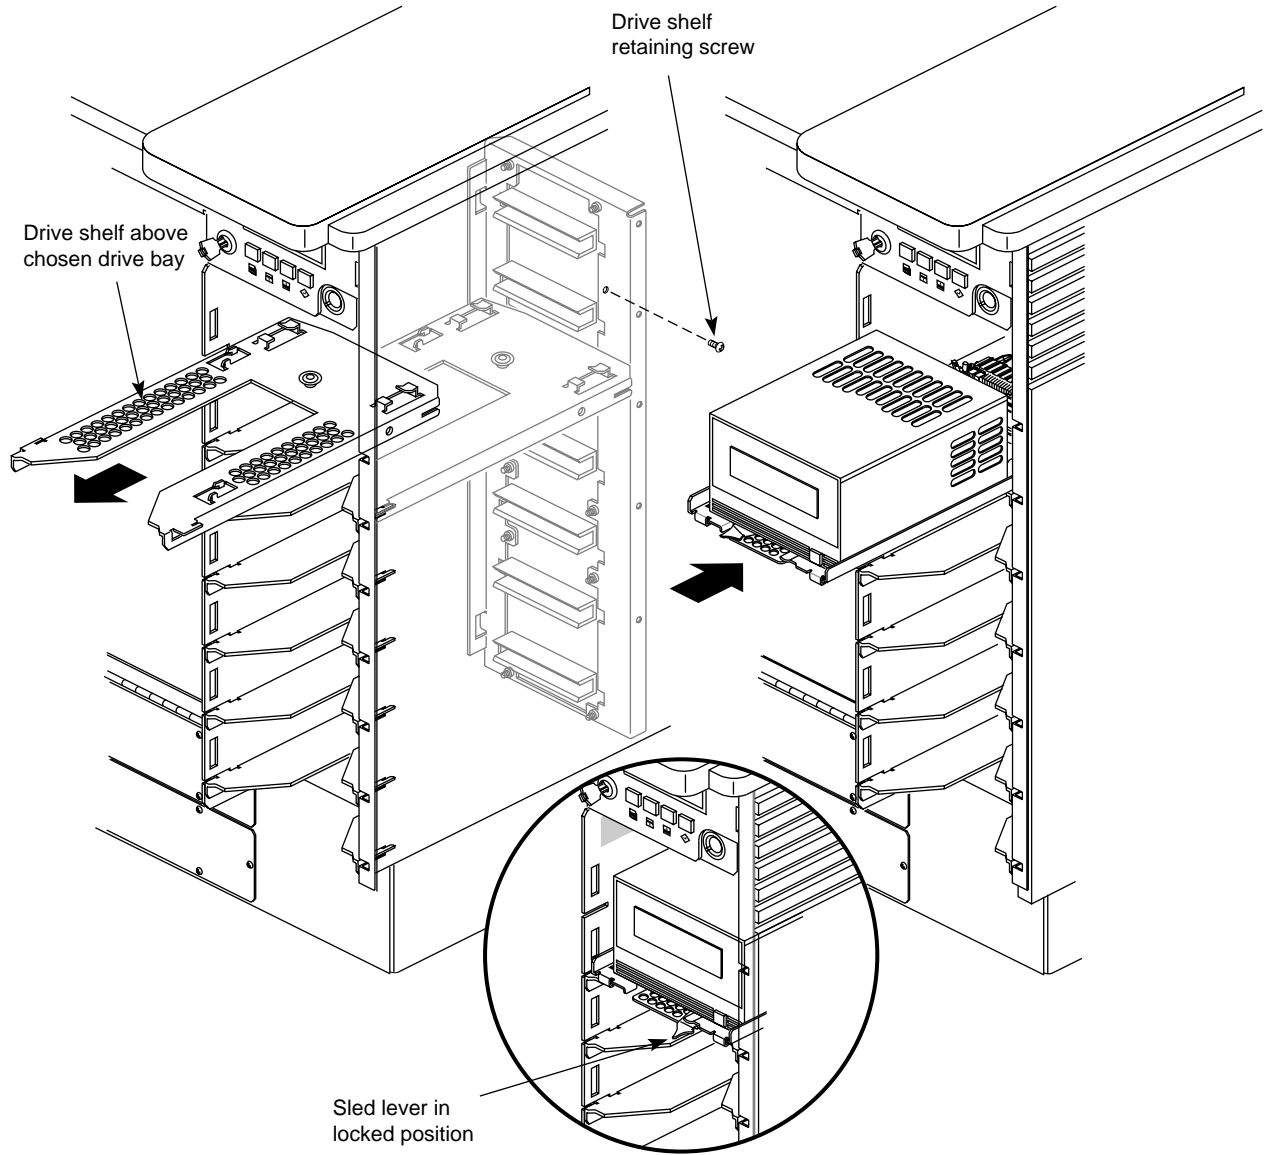

Figure 4-6 Installing a Full-Height Front Loading Device
5. Pull the drive shelf straight out of the chassis. See Figure 4-6.
7. Carefully insert the device into the drive bay until it seats firmly into the lever catch and the lever will not move any farther to the right. See Figure 4-6.